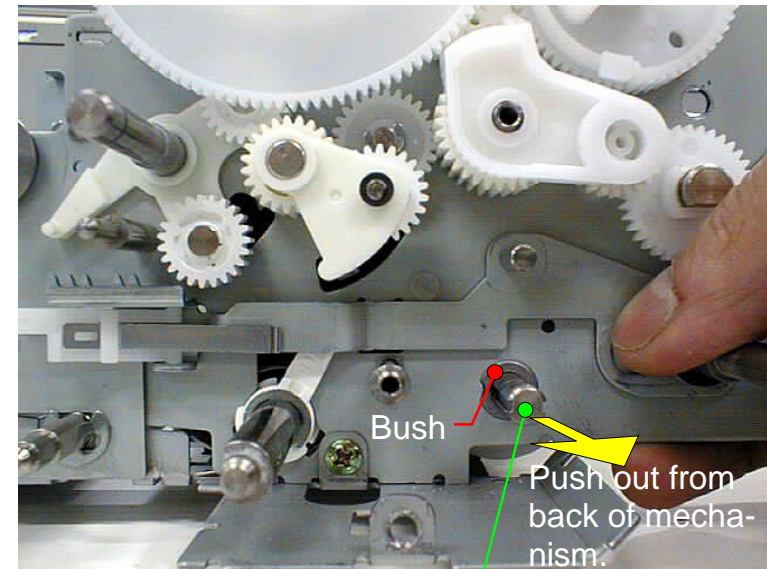

Figure 4-88. Installing "Hopper Lock Transmission Gear Assembly"
4. Push out "Axis, Paper Return, Cam" toward arrow direction in Figure4-88 from the back of the mechanism by finger, and insert "Hopper Lock Transmission Gear Assembly" under the condition that "Axis, Paper Return, Cam" and bush are stable. (Refer to Figure4-88)